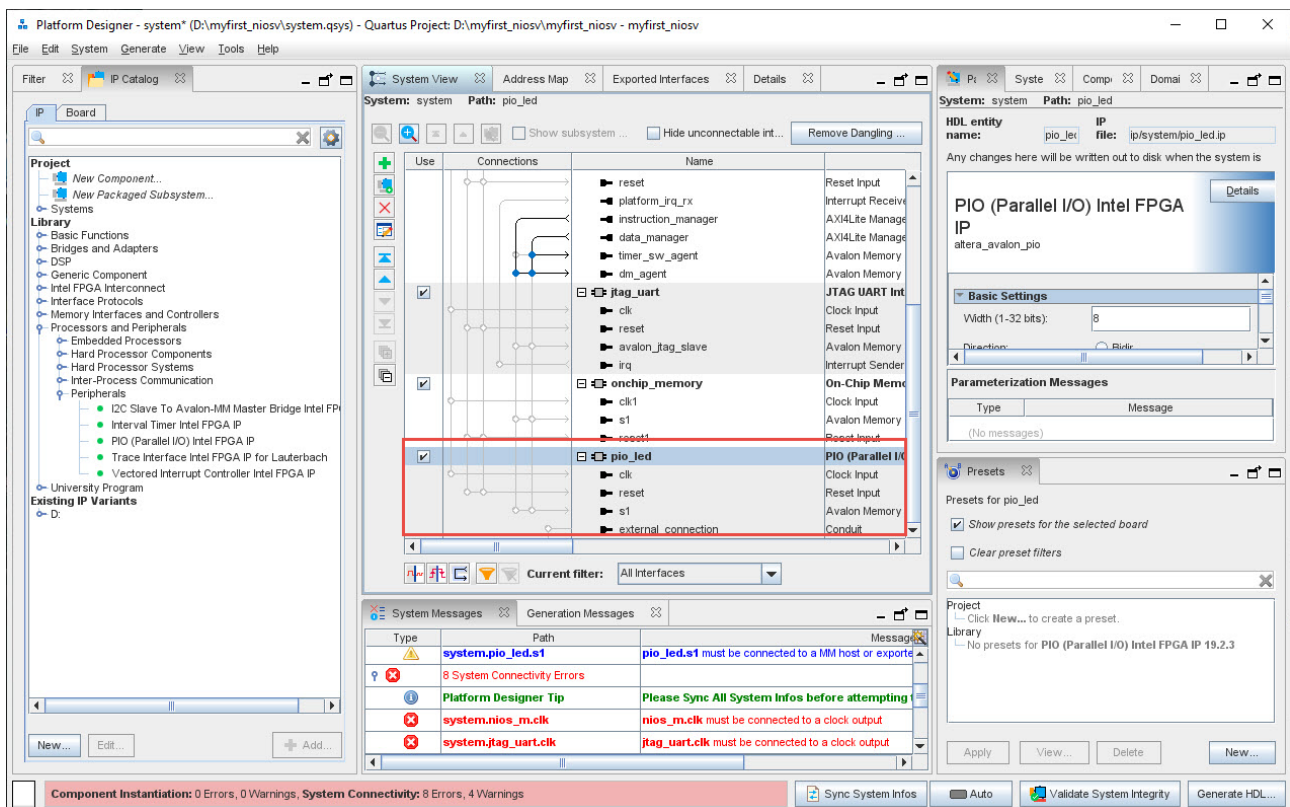

Figure 2-19 PIO
8. Figure 2-19 show the **prio_led** component is added in the system.